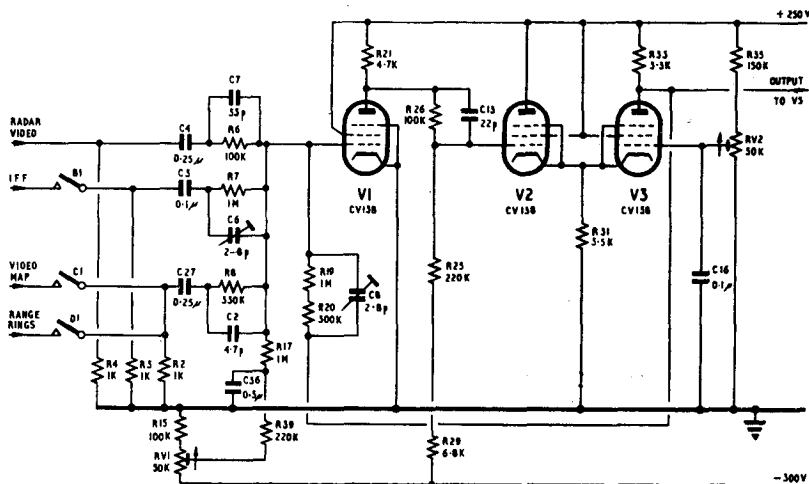

Fig. 4. Initial mixing amplifier
8. A simplified circuit diagram of the initial mixing amplifier stages is given in fig. 4. Grid stoppers, metering resistors, etc., have been omitted from this diagram, leaving only the components of major importance in the circuit operation.